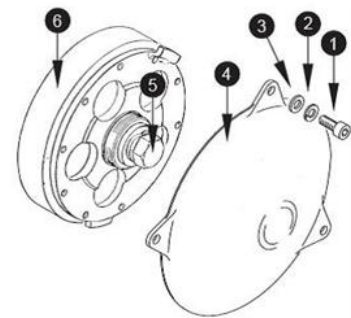

Fig. 5
-unload 3 M6\*16 screws(1), lock washer(2), washer(3)( Fig. 5), move ignition cover(4). Manually rotate the fly wheel(6) by screw(5) 3 rounds anticlockwise. Install ignition cover after change the position. Tighten the screws in 10N•m.